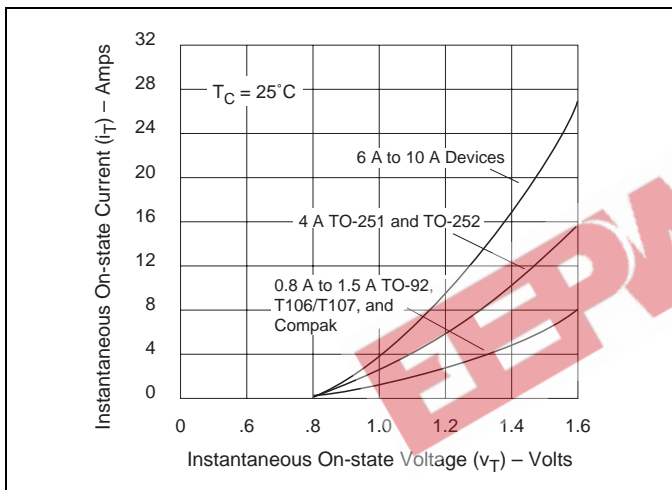

Figure E5.11 Instantaneous On-state Current versus On-state Voltage (Typical)
- See Figure E5.11 for instantaneous on-state current (i_T) versus on-state voltage (v_T) TYP.